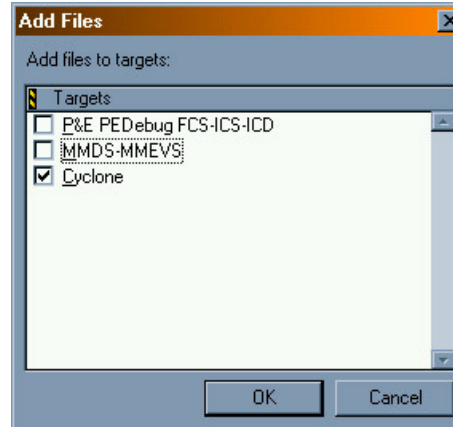

Figure 1-18. Add Files to Targets Window
15. Click Open. The Add Files window appears. See Figure 1-18.